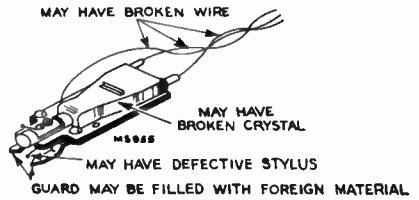

Figure V24.
16. **No Output:** See figure V24.